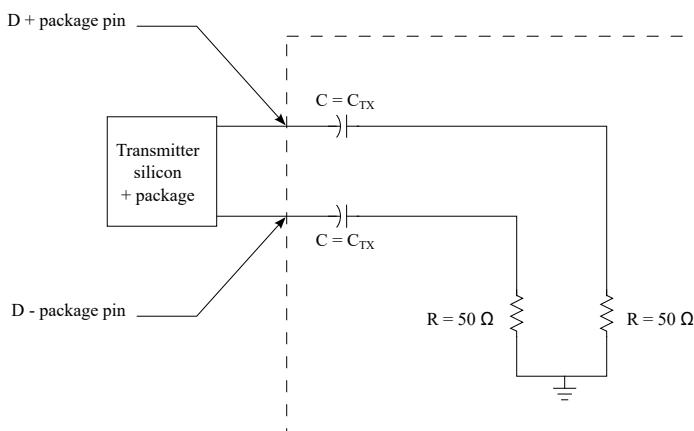

Figure 26. Test and measurement load
1. Specified at the measurement point into a timing and voltage test load as shown in Figure 26 and measured over any 250 consecutive transmitter UIs.
<ol style="list-style-type: none"> 1. Specified at the measurement point into a timing and voltage test load as shown in Figure 26 and measured over any 250 consecutive transmitter UIs. 2. The chip's SerDes transmitter does not have C_{TX} built-in. An external AC coupling capacitor is required. 3. For recommended operating conditions, see Table 3.
<ol style="list-style-type: none"> 1. Specified at the measurement point and measured over any 250 consecutive UIs. The test load in Figure 26 must be used as the receiver device when taking measurements. If the clocks to the receiver and transmitter are not derived from the same reference clock, the transmitter UI recovered from 3500 consecutive UI must be used as a reference for the eye diagram.